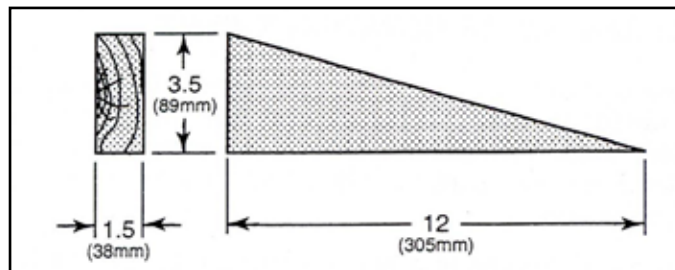

Figure 9-3 - Knife Seating Wedges
26. Position wood wedges between the knives next to every other holddown unit for seating the knives. The wedges can be cut from standard 2" x 4" (51 x 102mm) lumber. See Figure 9-3.